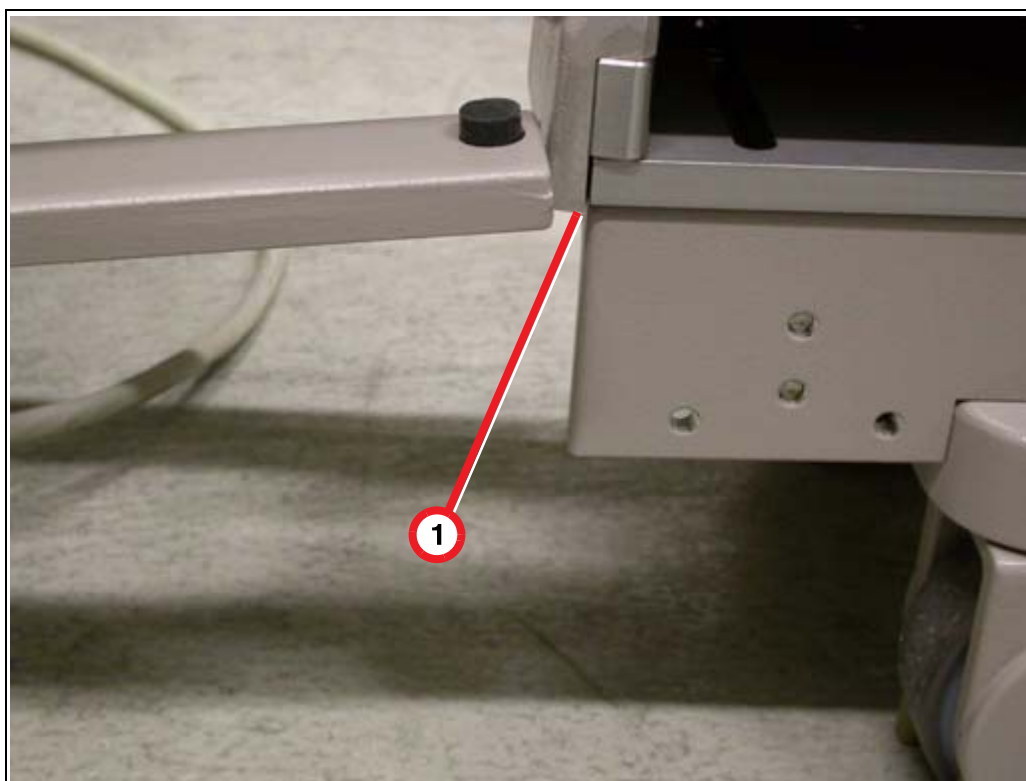

Fig. 24: Positioning_yoke_2
- The positioning yoke must be adjusted so that its height corresponds to that of the docking bridge ((1/Fig. 24 / p. 23)). Adjustment can be performed by turning the two rubber stoppers ((2/Fig. 24 / p. 23)).